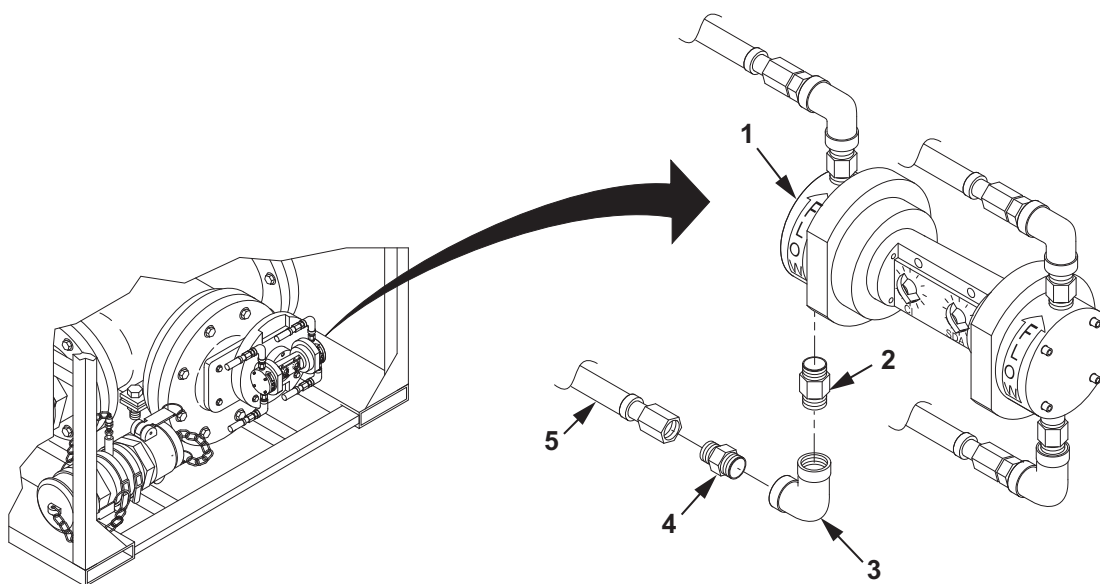

Figure 1. CI and SDA Pump Suction Check Valves Replacement.
1. Apply teflon tape to the threads of new suction check valve (Figure 1, Item 2).
2. Install new suction check valve (Figure 1, Item 2) on CI and SDA pump (Figure 1, Item 1).
3. Connect 90° elbow assembly (Figure 1, Item 3) to suction check valve (Figure 1, Item 2).
4. Apply teflon tape to the threads of tube adapter (Figure 1, Item 4).
5. Install tube adapter (Figure 1, Item 4) on 90° elbow (Figure 1, Item 3).
6. Connect suction tube assembly (Figure 1, Item 5) to tube adapter (Figure 1, Item 4) and remove tags.